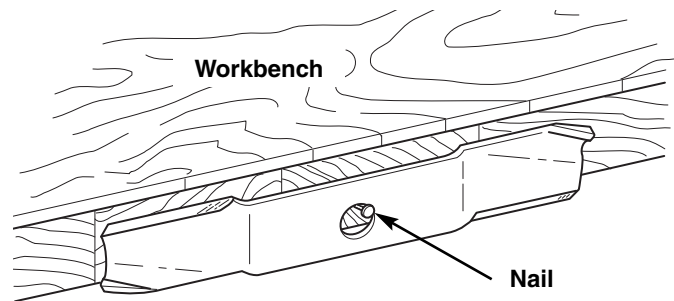

Figure 24. Balancing the Blade
6. Balance the blade as shown in Figure 24. Center the blade's hole on a nail lubricated with a drop of oil. A balanced blade will remain level. If the blade is not balanced, continue to sharpen the heavy side until it balances.